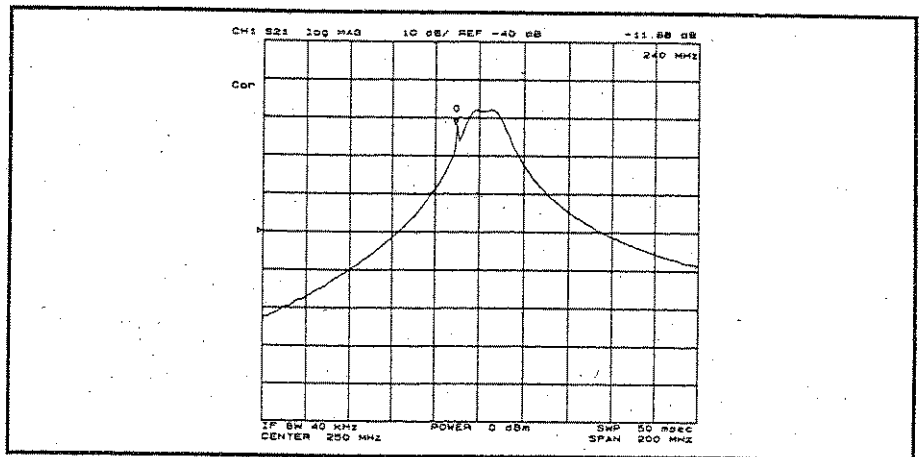

Figure 3-9.
2. Press **Search** **PEAK** to put the marker on an unknown peak of the trace. The transmission measurement result is displayed as shown in Figure 3-9.